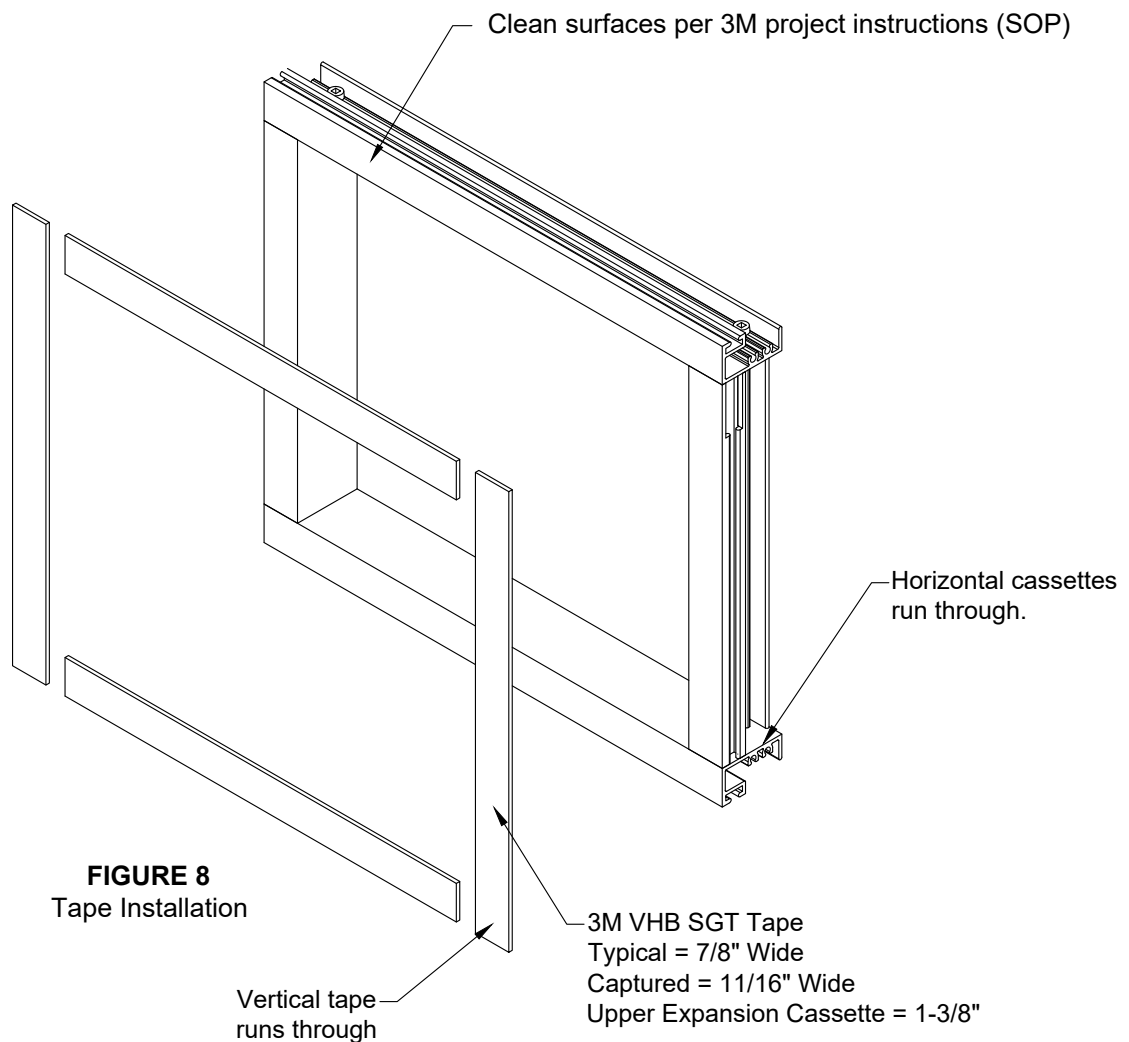

FIGURE 8
- 2.5 Surface of cassette and glass will be cleaned and primed per 3M project instructions(SOP). Metal from project must be sent to 3M for review and primer recommendations. 3M will provide project specific instructions and hands on instructions for each project. SEE FIGURE 8